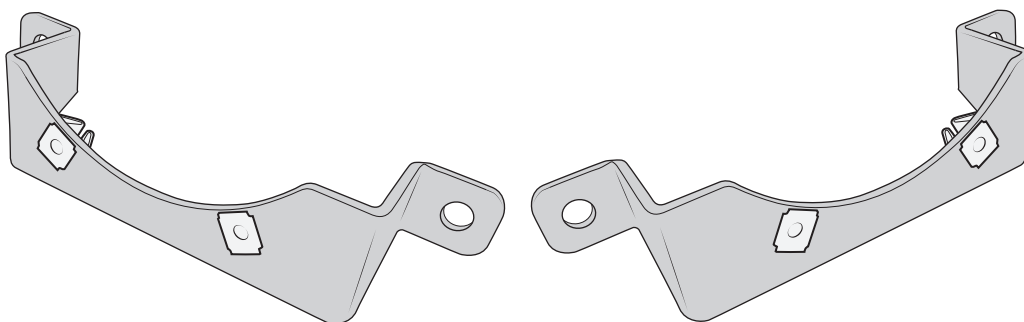

Figure 12
- ii. Insert four provided square push-in nuts for each fog light from rear of stamping and bracket as shown (fig. 12).